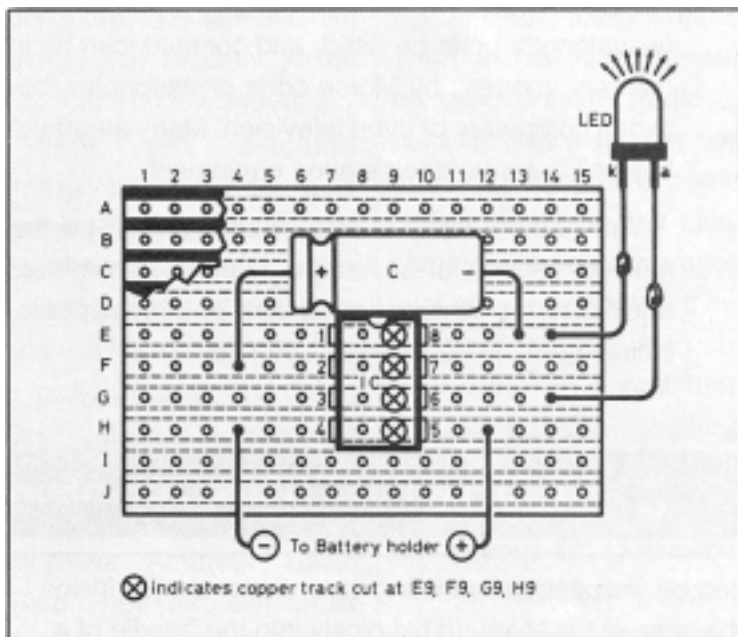

Figure 2 Board layout viewed from the component side. The tracks are cut under the board where shown
Suppose that there was something, out in space, that would reflect radio waves. Waves from A that travel out into space could be reflected off it and return to earth, enabling stations such as B1 to receive A's signals. The situation just described is illustrated in **Figure 2**.
The circuit can be built on a small piece of Veroboard (the piece shown in **Figure 2** measures 15 holes by 10 strips). Using such a board, follow these instructions.
1. Depending on how far away you want the LED from the circuit board, solder a length of insulated wire to each lead of the LED. Use different colours of insulation – say, red and black, connecting the *red* lead to the *anode* (a) lead (the longer one) of the LED, and the black one to the *cathode* (k). Figure 2 shows these leads.
2. Cut the copper tracks as shown in Figure 2, using a 3 mm ($\frac{1}{8}$ inch) diameter drill, rotated between thumb and forefinger, or use the proper tool. Make *absolutely* sure that the tracks are completely broken!